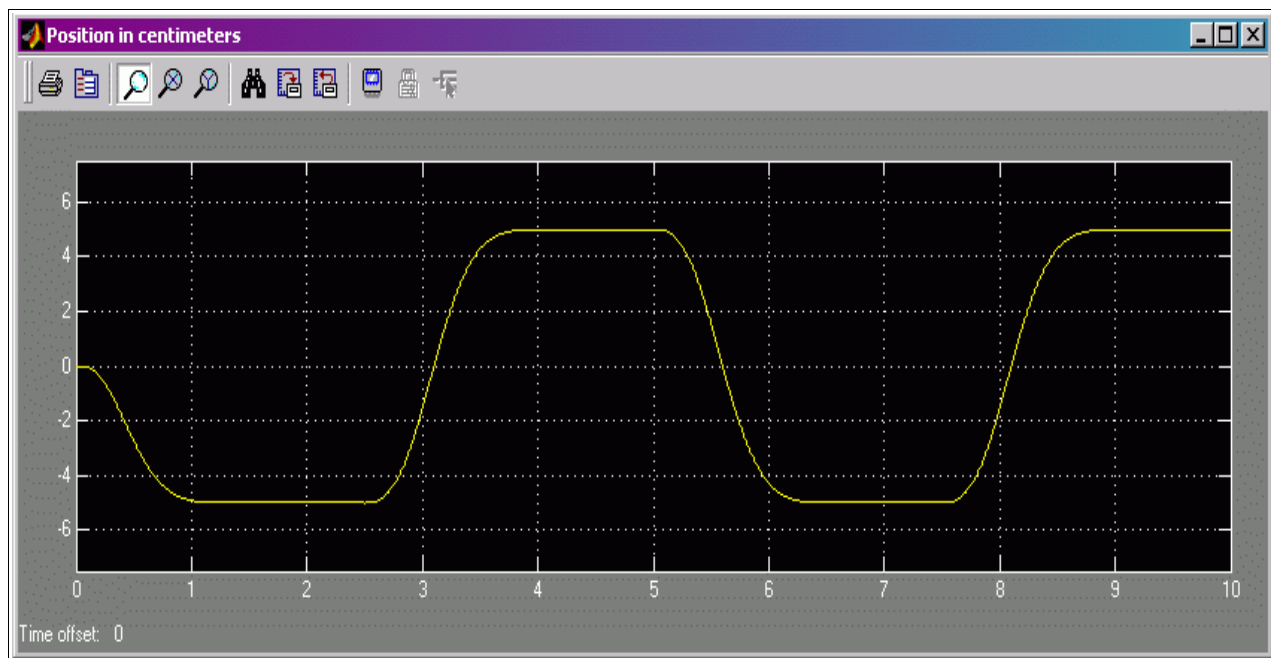

Figure 4 Simulated Position of Ball
Once you are confident that you have built the equivalent ball & beam model and you have implemented the controller correctly, you can proceed and simulate the experiment. Choose *Simulation->Start* to begin the simulation of your system. Double-Click on the *Position in Centimeters* scope to monitor the response of your system. Using the suggested time requirements in your calculations and building your Simulink model correctly, you should have a measurement similar to Figure 4 below.
If your scope looks similar to Figure 4, you have connected the simulation blocks properly and your gains were calculated correctly. If your plot does not match that of Figure 4, then:
- v. After simulating the system with the model, comment on the performance of your controller (calculated gains). Include your scope output similar to Figure 4.